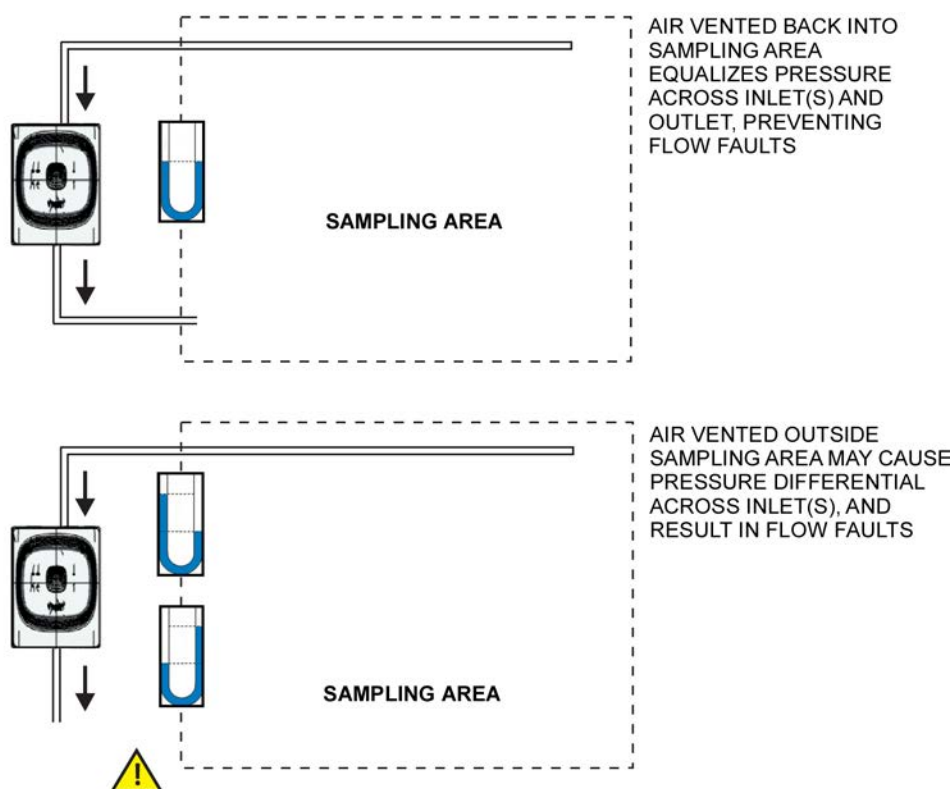

Figure 3-7: Piping Considerations
3. Whenever the FAAST FLEX is installed outside the risk area, it is recommended that the exhaust air from the device be returned to the risk area. This will reduce flow faults caused by pressure differences (see Figure 3-7).